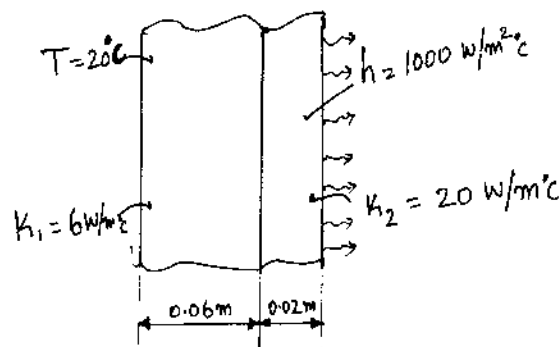

Fig.Q8(b)
b. Determine the temperature distribution through the composite wall, subjected to convection heat transfer on the right side surface, with convective heat transfer co-efficient shown in Fig.Q8(b). The ambient temperature is -5°C . Assume unit area. (12 Marks)